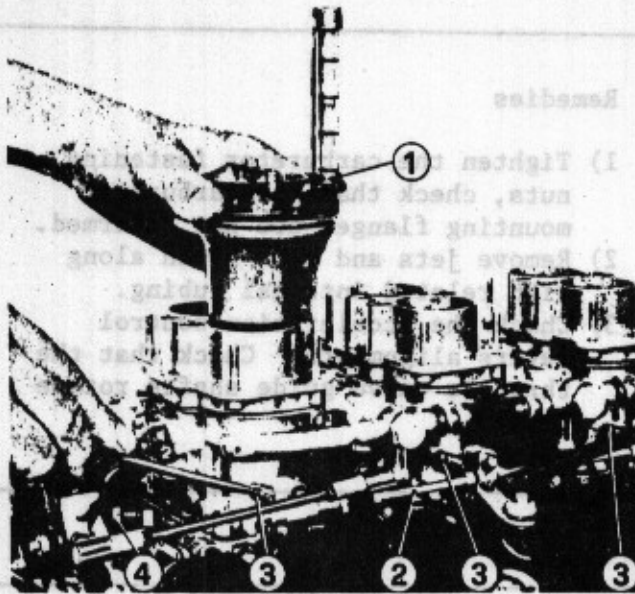

Fig. 47 Synchronization of throttle butterfly valves.
- Close completely all the screws 4 (fig. 47) and unscrew each by two turns.